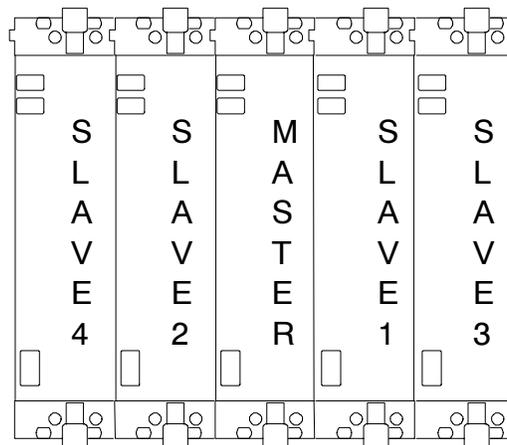

Figure 17: Location of modules in a merged system
- When merging logic analyzer modules of unequal channel widths, use the logic analyzer module with the highest number of channels as the master module. If there is a second slave module, the first slave must have greater than or equal the number of channels as the second slave module. Slave 3 cannot have more channels than the master, slave 1 or slave 2. Slave 4 cannot have more channels than the master, slave 1, slave 2, or slave 3. See Figure 17 on page 27 to determine the location of the master module with the merged module set.
Use Figure 17 as a guide for determining the location of the master module with the merged module set. Even though Figure 17 shows a five module set, you can still use the illustration to position the master module with respect to the slave module. For example, if you have a two module set, the master module is located in the lower-numbered slot, and the slave module is in the higher-numbered slot.
In a three-way merge (TLA7Nx, TLA7Px, and TLA7Qx logic analyzer modules only), the master module is in the center. Slave module 1 is to the right of the master module. Slave module 2 is on the left of the master module as shown in Figure 17 on page 27.